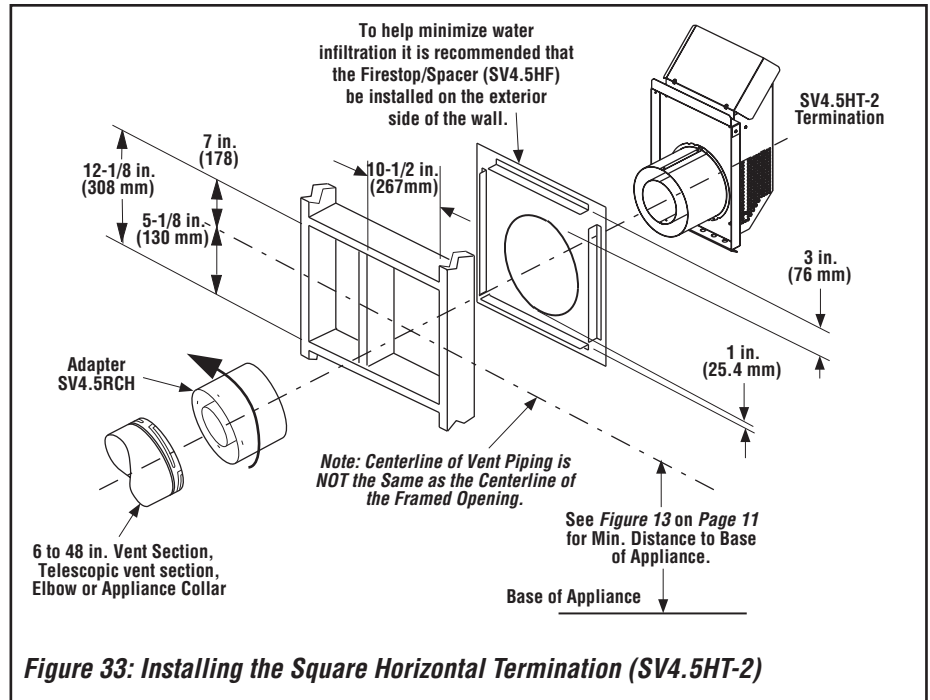

Figure 33: Installing the Square Horizontal Termination (SV4.5HT-2)
K. Attach termination adaptor—Attach the adaptor (SV4.5RCH, provided with the termination) to the vent section or telescoping vent section), elbow or appliance collar as shown in **Figure 33** in the same manner as any SV4.5 vent component (refer to **Step E**).
L. Install Firestop/Spacer at exterior wall—When using the **square** termination, install SV4.5HF (Secure Vent®), SF4.5HF (Secure Flex®) Firestop/Spacer over the opening at the exterior side of the framing, long side up, with the 3 inch spacer clearance at the top as shown in **Figure 33**, and nail into place (the Firestop/Spacer may also be installed over the opening at the interior side of the framing).